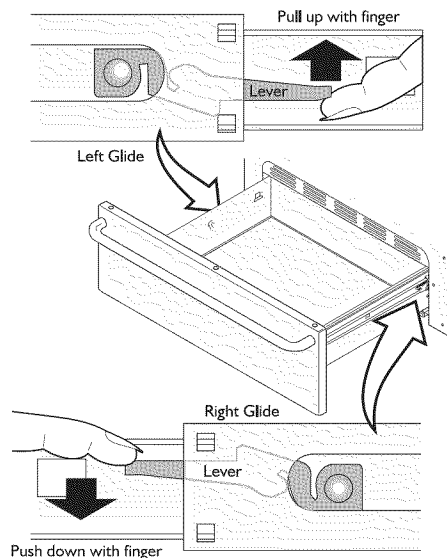

Fig. 1
3. Locate glide lever on each side of drawer, pull up on the left glide lever and push down on the right glide lever (See Fig. 1).